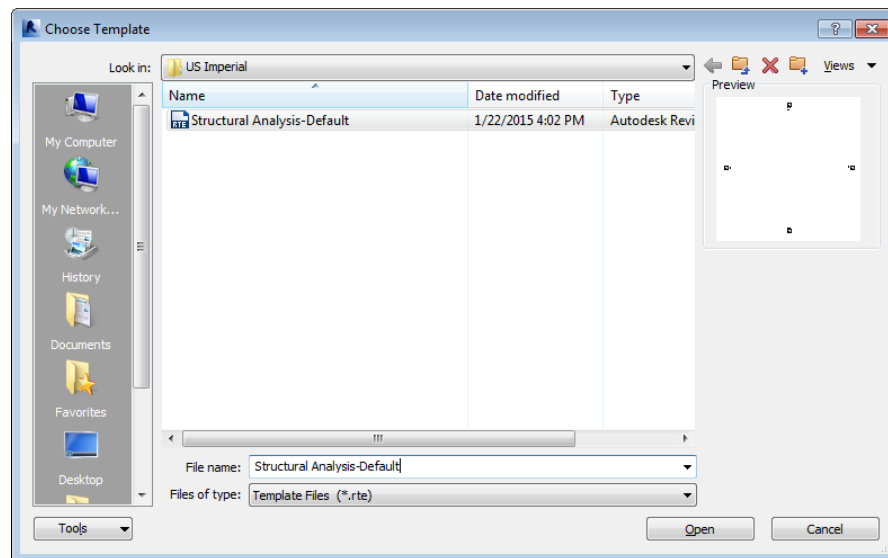

Figure 2-28 The Choose Template dialog box
2. In the **Choose Template** dialog box, the template file **Structural Analysis-Default.rte**, as shown in Figure 2-28, is selected as the default template file in the **US Imperial** folder. In **US Metric** folder, default template file is **Structural Analysis-DefaultMetric.rte**. Choose the **Open** button to assign the selected template file to the **New Project** dialog box.